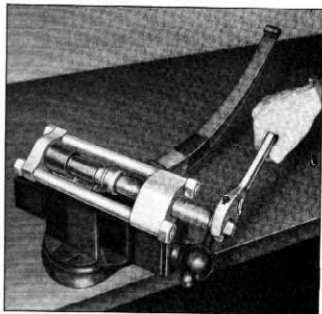

Fig. 27—Removing Rear Spring Front Bushing
2. Install rear spring front bushing remover and installer J-136A in position (fig. 27) with adapter plug inside the bushing and pressure plate behind the spring eye.